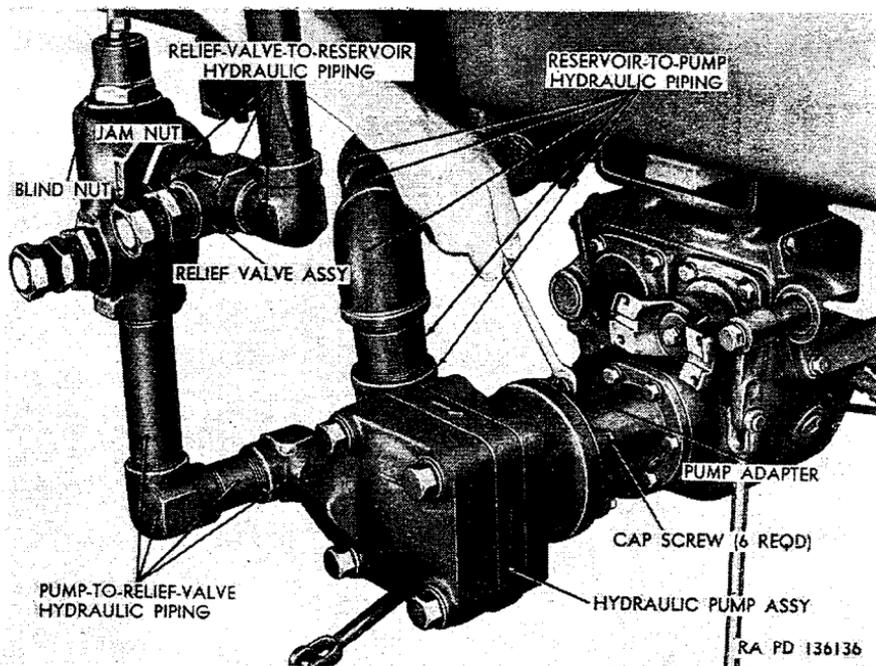

Figure 298. Removing hydraulic pump and relief valve assembly from power divider M62.
- (2) Remove blind nut (fig. 298) from relief-valve adjusting setscrew, and loosen jam nut on setscrew.
- (3) Using a screwdriver, turn setscrew as necessary to obtain the correct relief valve setting of 1,200 psi.
- (4) After correct relief valve setting is obtained, hold setscrew and tighten jam nut. Install blind nut (fig. 298) on setscrew.
c. Removal (fig. 298).
- (1) Remove power divider assembly (par. 271c(2)(a) through (n)).
- (2) Remove six cap screws and lockwashers securing hydraulic pump and relief valve assembly to pump adapter at rear of power divider.
- (3) Remove pump-to-relief-valve hydraulic piping, with hydraulic pump assembly attached, from relief valve.
- (4) Remove relief-valve-to-reservoir hydraulic piping from relief valve.
- (5) Remove reservoir-to-pump hydraulic piping from pump.
- (6) Remove pump-to-relief-valve hydraulic piping from pump.
- d. Installation (fig. 298).
- (1) Install pump-to-relief-valve hydraulic piping in pump outlet port.
- (2) Install reservoir-to-pump hydraulic piping in pump inlet port.
- (3) Install relief-valve-to-reservoir hydraulic piping in relief valve output port.
- (4) Install relief valve, with relief-valve-to-reservoir hydraulic piping attached, on pump-to-relief-valve hydraulic piping.
- (5) Position new gasket on pump flange, align key on pump shaft with keyway in hydraulic pump output shaft coupling, and position pump on adapter at rear of power divider. Install six cap screws with lockwashers in holes in adapter and pump flanges, and tighten screws.
- (6) Install power divider assembly (par. 271c(3)(h) through (x)).